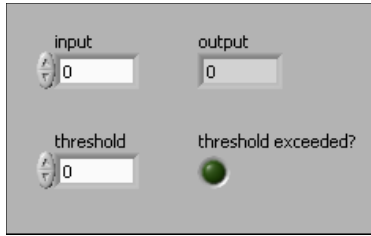

Figure 2. Changing the Labels
2. Rename the controls as shown in Figure 2.